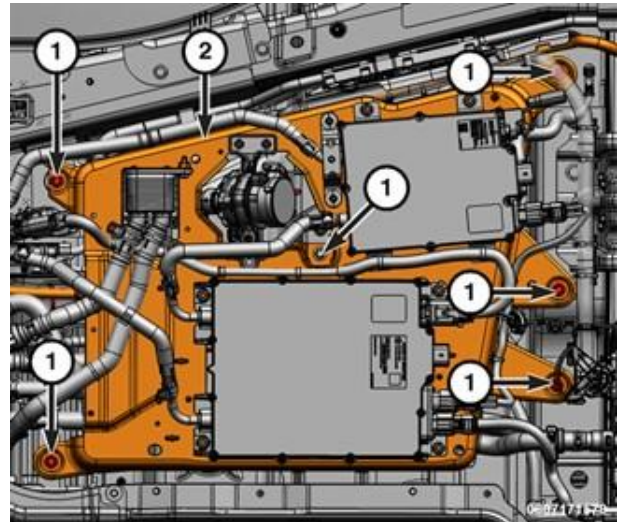

Figure 46 – Battery Charger Bracket
70. Position a suitable stand to support the battery charger bracket (2) then remove the fasteners (1) (Figure 46).
104. Install the battery charger bracket fasteners (1) and tighten to 25 N·m (18 ft. lbs.) (Figure 46).